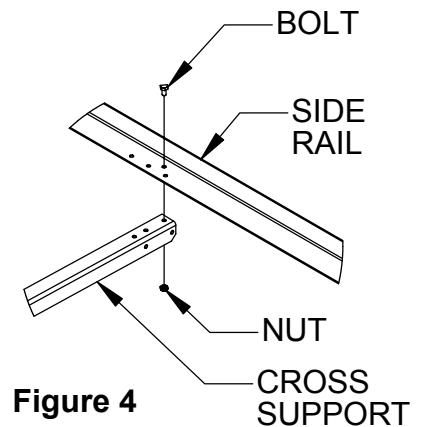

Figure 4
Step 4: Attach CROSS SUPPORT to SIDE RAILS as shown in Figure 4. Tighten all nuts, bolts, and L-screws.